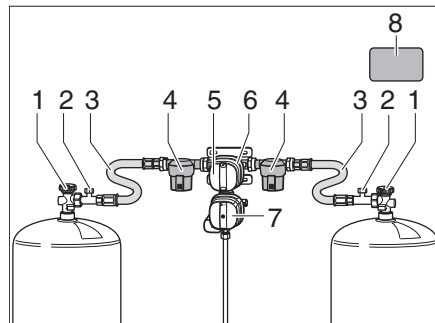
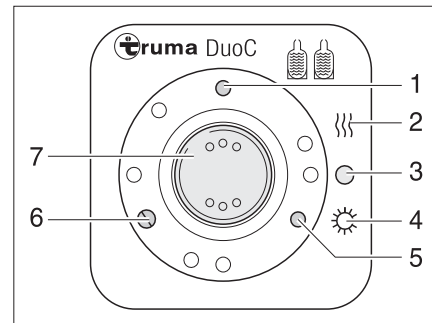
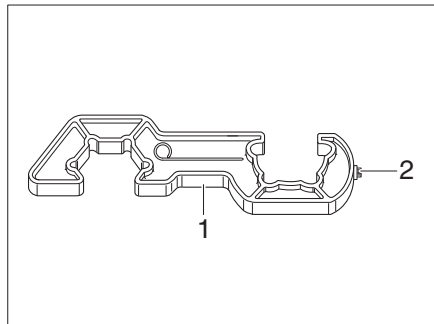
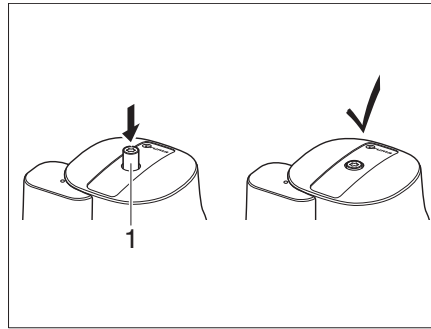

Fig. 70 DuoControl switching facility
Fig. 71 Operating unit
Fig. 73 Screw aid
Fig. 74 Crash sensor
The DuoControl switching facility consists of a switching valve (Fig. 70,6) and the operating unit (Fig. 71). The switching valve is mounted between the high-pressure hoses (Fig. 70, 3). The knob (Fig. 70,5) on the switching valve is used to select which of the gas bottles is to be used as a primary bottle and which is to be used as a reserve bottle.
The switching valve (Fig. 70,6) is equipped with the regulator defroster "EisEx". This prevents damage to the gas system during the winter months.
A gas filter (Fig. 70,4) that protects the gas system against oil and other contamination is located on each side before the switching valve.
Only the electrical functions can be switched at the operating unit (Fig. 71). The regulator taps (Fig. 70,1) on the gas bottles must be opened manually.
The switching valve provides a constant gas pressure, regardless of which gas bottle is being drawn upon. The two indicator lamps on the operating unit show the filling level of the primary bottle. The primary bottle is full when the green indicator lamp (Fig. 71,6) lights up. The primary bottle is empty when the red indicator lamp (Fig. 71,5) lights up. The gas is then supplied via the reserve bottle.
- Open the regulator taps (Fig. 70, 1) on the gas bottles.
- Use the knob (Fig. 70,5) on the switching valve (Fig. 70,6) to select the gas bottle which is to be the primary source of gas (primary bottle). Always turn the knob as far as it will go.
- Set the rocker switch (Fig. 71,7) to "O" (Fig. 71,3). The yellow indicator lamp (Fig. 71,1) goes out.
- Close the regulator tap (Fig. 70,1) on the gas bottles.
The indicator lamps on the operating unit (Fig. 71,5 and 6) indicate in the vehicle interior whether the primary bottle is ready for operation.
If the green indicator lamp (Fig. 71,6) goes out during operation and the red indicator lamp (Fig. 71,5) lights up, the gas bottle selected as the primary bottle is empty and has to be replaced. The reserve bottle continues supplying the gas appliances with gas.
- ▶ Use the enclosed screw aid (Fig. 73,1) to connect and disconnect the high-pressure hoses. It ensures the required tightening torque and prevents damage to the screw connection through using unsuitable tools.
- Close the regulator tap (Fig. 70, 1) on the empty gas bottle.
- Unscrew the high-pressure hose (Fig. 70,3) from the gas bottle using the screw aid (Fig. 73).
- Connect the full gas bottle to the high-pressure hose (Fig. 70,3).
- Open the regulator tap (Fig. 70, 1) on the gas bottle.
- Set the knob (Fig. 70, 5) on the switching valve (Fig. 70, 6) with half a turn, so that the newly replaced gas bottle will serve as a reserve bottle.
- Press the button (Fig. 70, 2) for the hose break guard at the high-pressure hose to activate it.
- If necessary, press the reset button (Fig. 74, 1) at the crash sensor.
- ▶ Observe the safety label (Fig. 70, 8) in the gas bottle compartment.
- Use the Torx T20 (Fig. 73,2) at the screw aid to press in the safety release knob (Fig. 74,1), turn it slightly clockwise and hold it for 5 seconds. The crash sensor is ready to operate when the safety release knob (Fig. 74,1) remains in the lowered position.
- After replacing the gas bottle press the green button (Fig. 70,2) at the high-pressure hose (Fig. 70,3) vigorously.